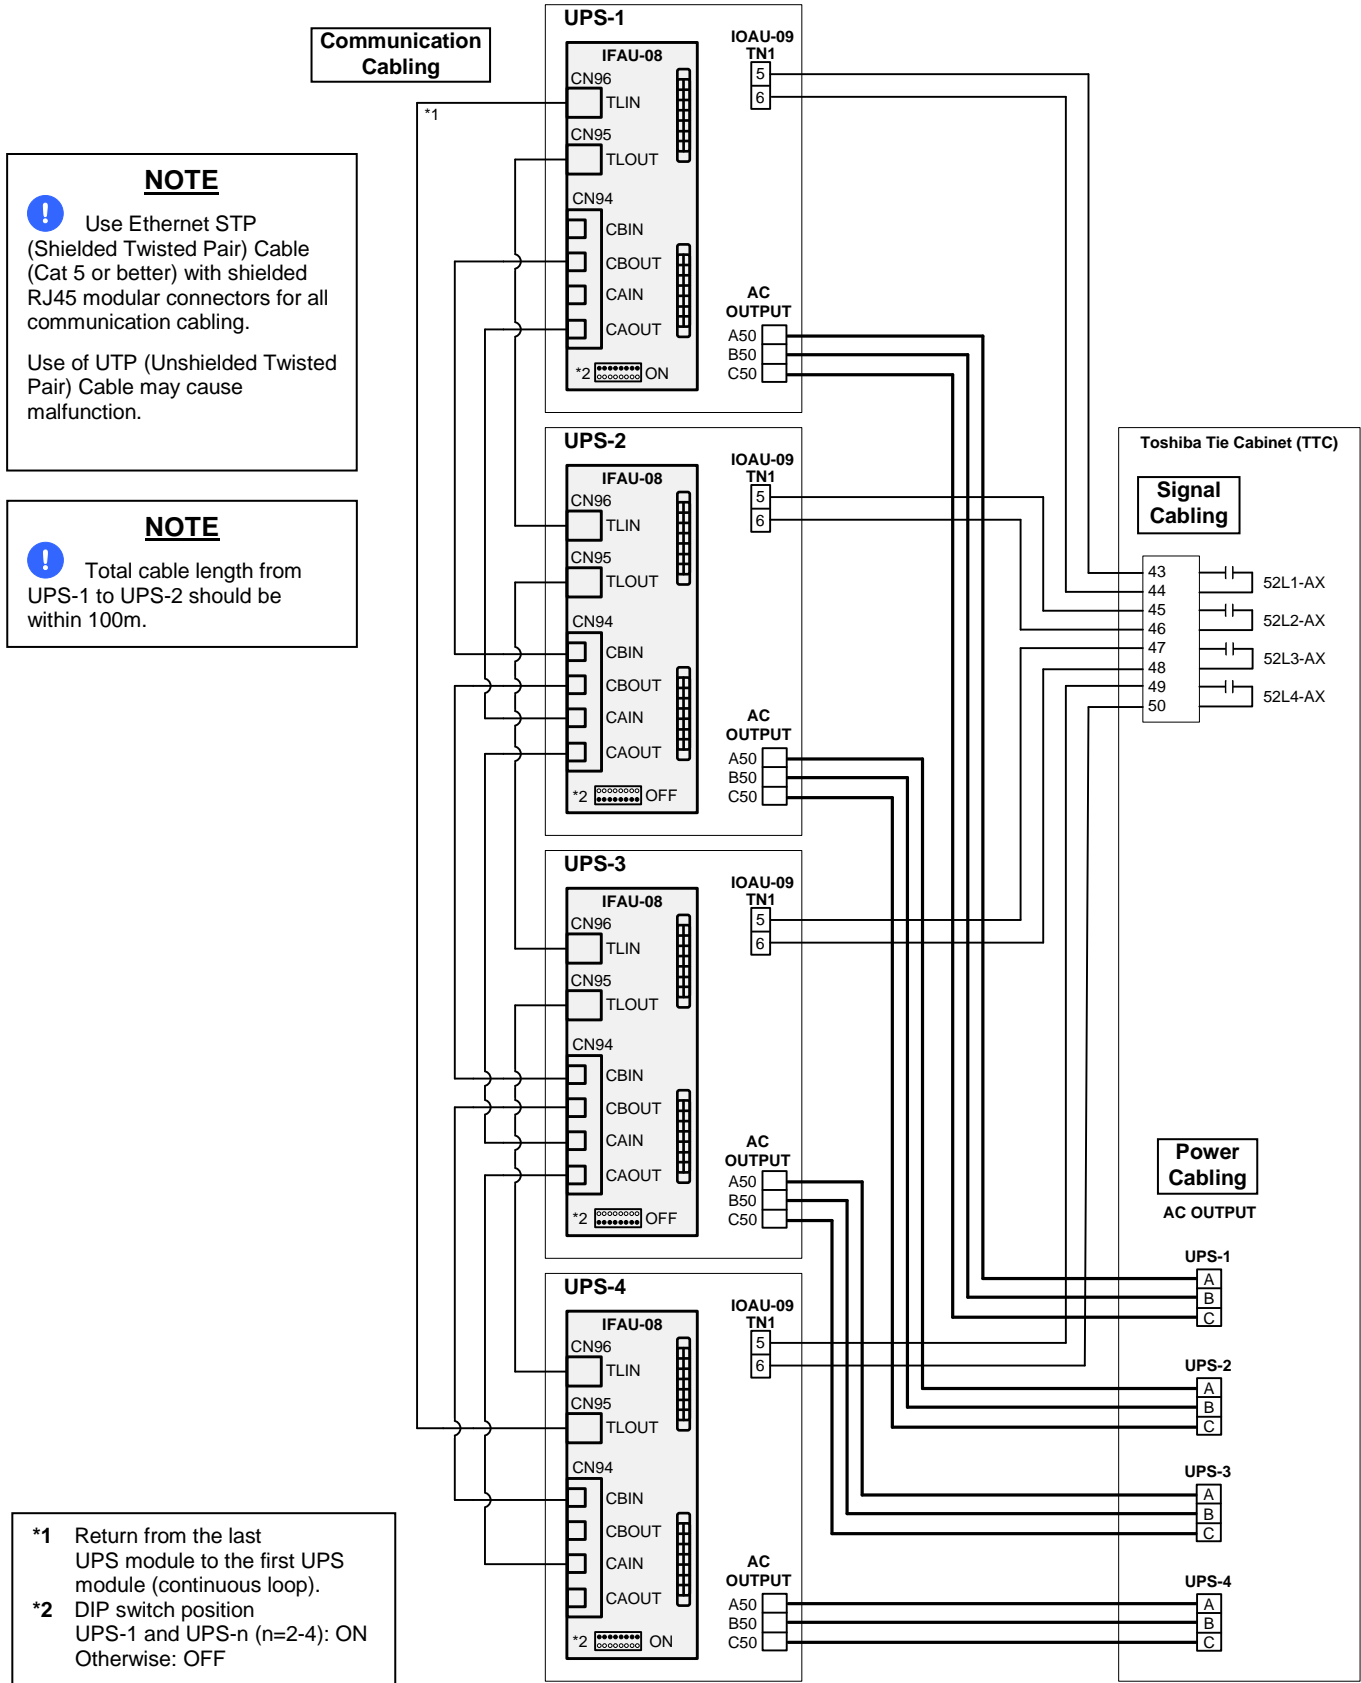

Figure 5-14 Diagram of Comm., Power, & Control Wire Connections for 4 units in MMS Config . (100-225kVA)
- Parallel control signal for CN94 as shown in Figure 5-14.
- Parallel control signal for CN96 and CN95 as shown in Figure 5-14.